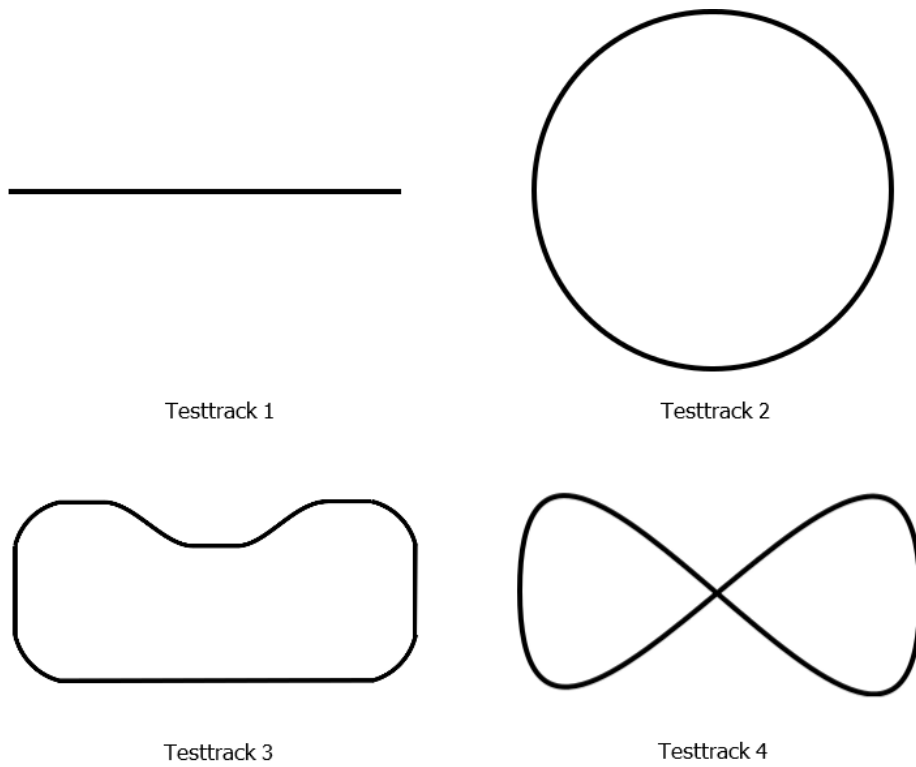

Figure 1.2: The test tracks
- B The robot is able to follow the line in test tracks 1-4 (see Fig. 1.2).